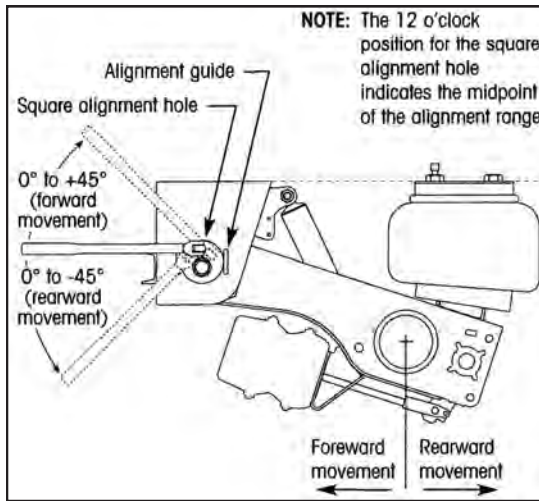
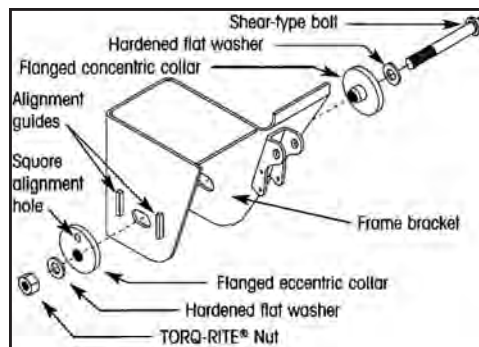

Figure 20. Quick-Align Operation
Figure 21. Pivot Connection Assembly
10. The **QUIK-ALIGN®** style pivot connection uses two flanged collars inserted into slots on each side of the frame bracket (Figure 21). The eccentric collar on the outboard side of the frame bracket is used to adjust the position of the axle during an alignment. The alignment guides on the side of the frame bracket limit the eccentric collar to rotational movement in the frame bracket slot. Rotating the eccentric collar clockwise causes the axle to move forward. Rotating the eccentric collar counterclockwise causes the axle to move rearward (Figure 20). The maximum range of adjustment is ± 45 degrees from the 12 o'clock position.
11. Using an E20 Torx socket, tighten the shear-type bolt axle pivot connection until the Torx head shears off. This ensures the proper torque of 550 ft. lbs. (± 45 ft. lbs.). Pivot bolts must be replaced when trailer is aligned. **DO NOT** attempt to reuse old pivot bolts. Assembly of pivot connection shown below (Figure 21).